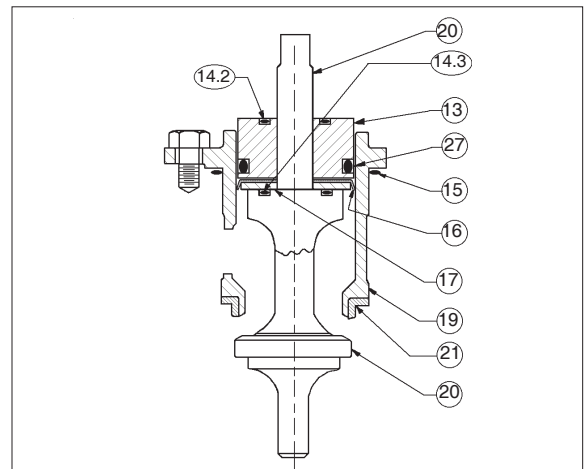

Figure 2: Assembled ITA,
1. Units with Composition Diaphragm(s) (See Figure 2):
- a. Pull the valve plug (20) downwards and out of the piston-guide bearing (13) and out of the cage's (19) bottom, while holding the cage (19).
- b. Remove the piston-guide bearing (13) from the upper end of the cage (19).
- c. Remove o-ring middle stem seal (14.2) from piston-guide bearing (13).